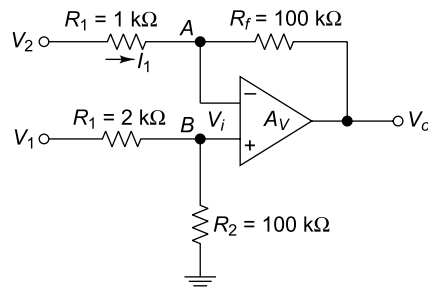

Fig. 5.24 Circuit of Ex. 5.13
5.13 Determine the common mode rejection ratio (CMRR) of the differential amplifier as shown in Fig. 5.24.